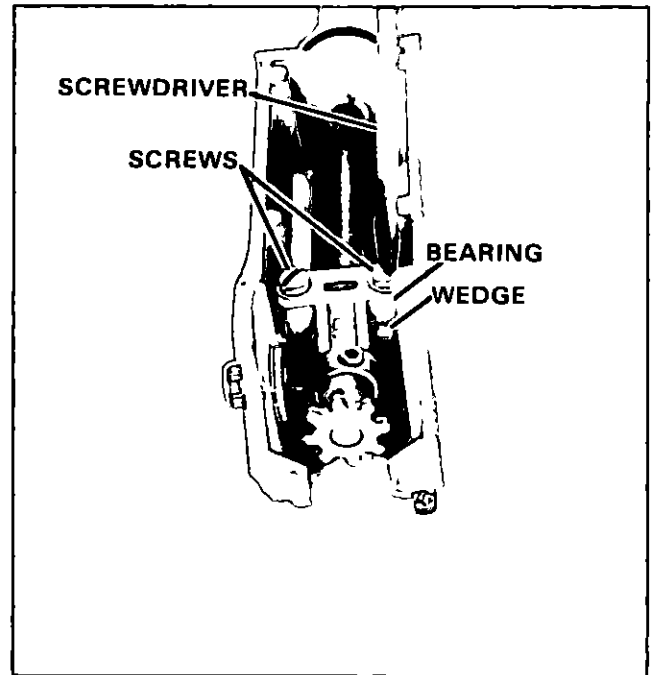

Figure 11. Adjusting Gear Mesh. (Shown apart for clarity)
- D Adjust gear mesh, by loosening steering handle bearing screws and moving wedge fore and aft so that gear teeth touch firmly without binding or radial clearance Figure 11